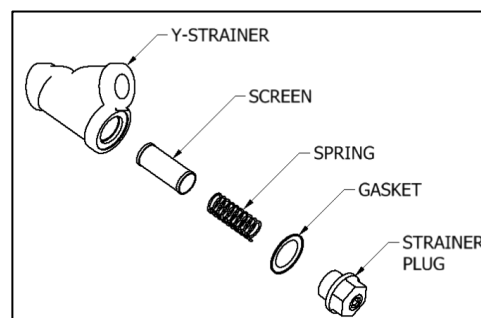

Figure 25: Inlet Material Screen Components
3. Completely unscrew the Strainer Plug. See Figure 25.